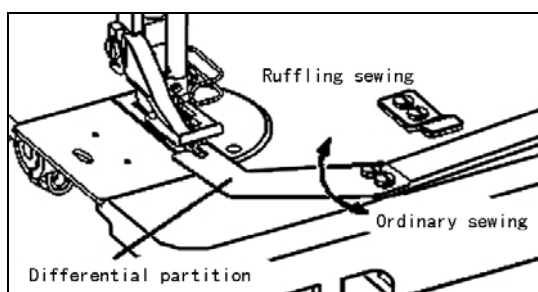

Fig. 39
33、Use of the Differential partition (Fig.39)